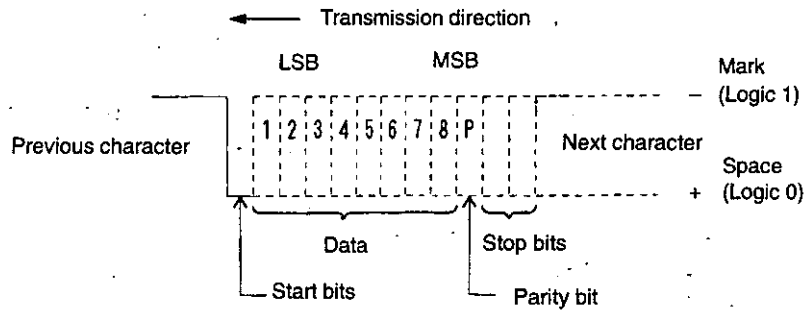

Figure 3.1 Data Format
2) Figure 3.1 shows the data format.